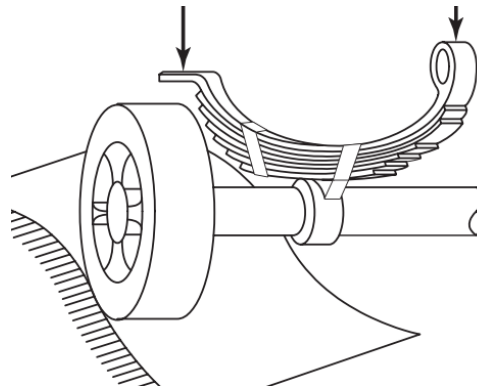

Fig. 2
- (b) One of the wheels and leaf springs of an automobile, traveling over a rough road, is shown in Fig. 2. The automobile has a mass of $m_1 = 1000$ kg and the leaf springs have a total stiffness of 400 kN/m. The wheels and axles have a mass of $m_2 = 300$ kg and the tires have a stiffness of 500 kN/m. If the road surface varies sinusoidally with an amplitude of 0.1 m and a period of 6 m, find the critical velocities of the automobile. **07**